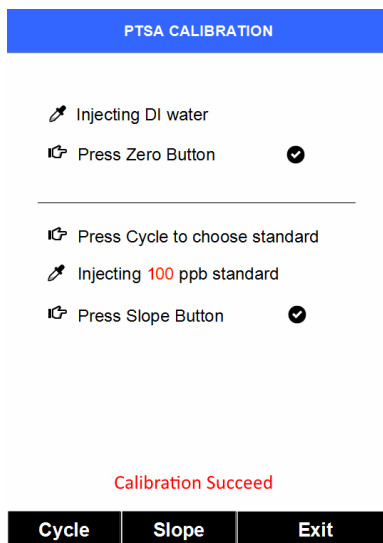

Figure 7
- 11) If calibration is successful, the screen will update with a second checkmark for the Slope setting as in Figure 7, and the message Calibration Succeed will appear.